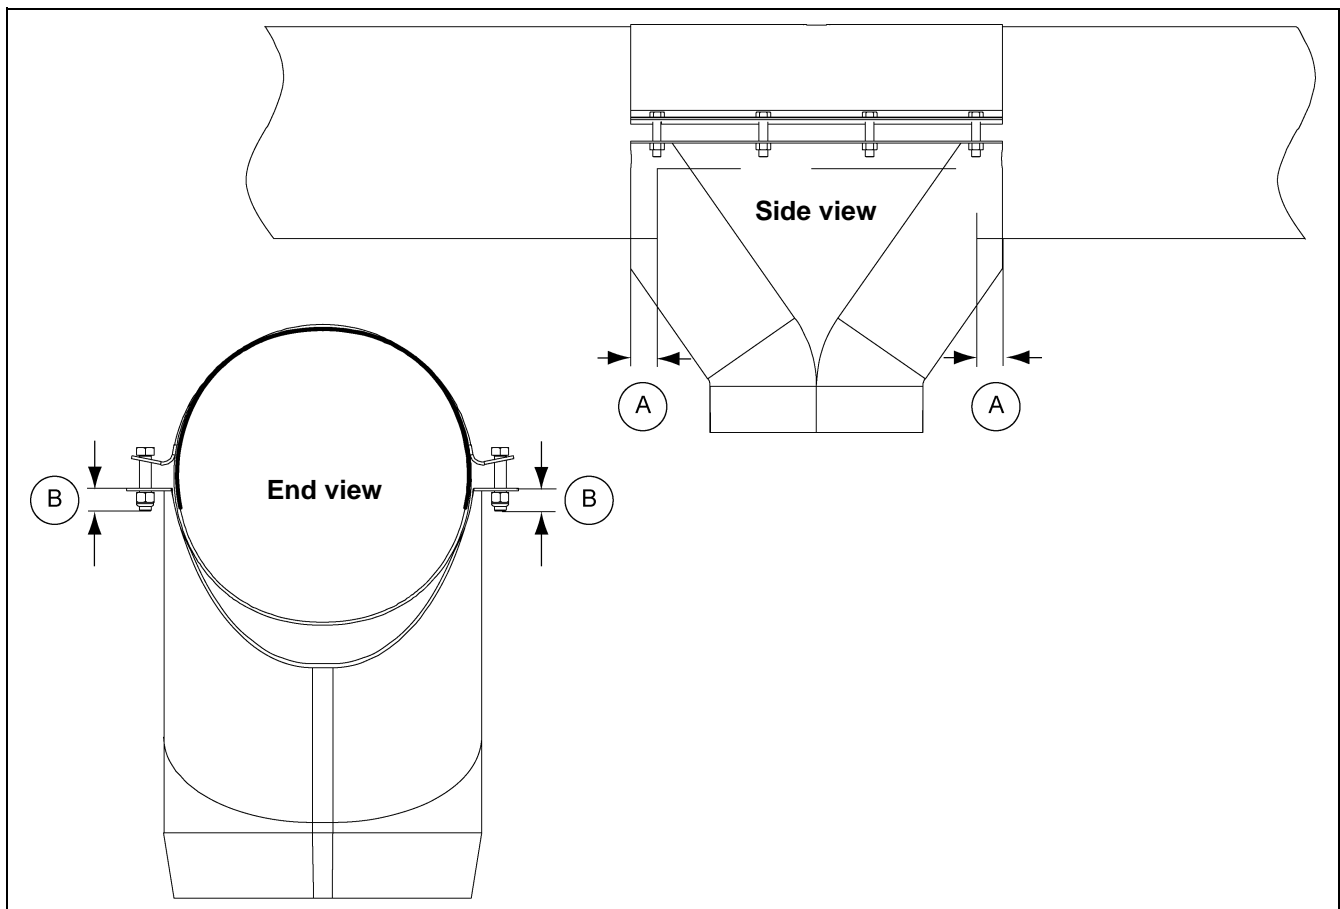

Figure 4AA
5. Carefully measure the outlet before cutting. Follow the recommended guidelines as shown *in Figure 4AA*. It is very important that the opening be large enough not to reduce capacity, but small enough so the outlet can be covered securely by the spout.